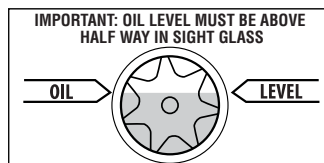

Figure 2
Step 1: Remove cap (DV-240DC) or filter (DV-285DC) from pump. One-shot, full quart oil fill brings oil to top of the oil level line. (Figure 2)
Step 4: Close oil drain valve on pump. Remove oil fill plug and fill to top of oil level line with BLACK GOLD Pump Oil (**Figure 2**). Replace oil fill plug.